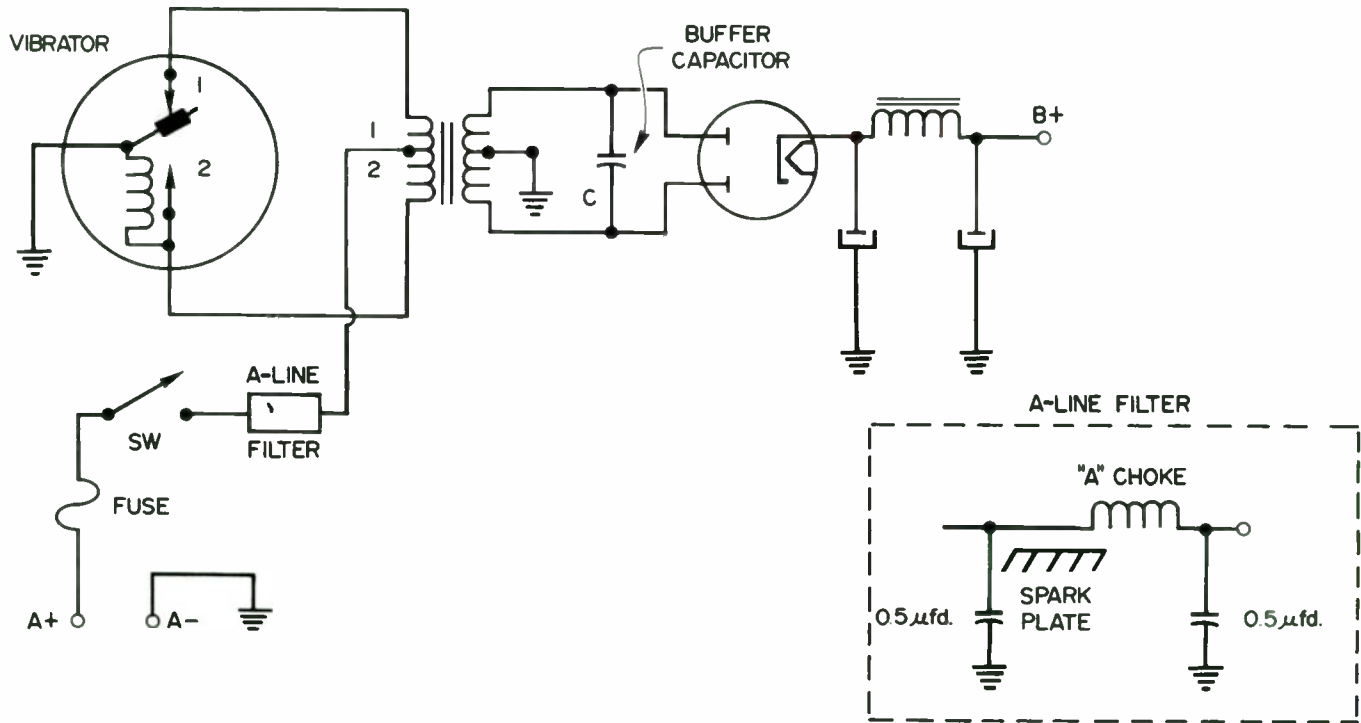

Figure 3 — Nonsynchronous vibrator supply.
The schematic in Figure 3 shows a typical nonsynchronous vibrator supply. It is powered from the automobile battery through terminals marked A+ and A-. Notice that the vibrator has two contacts; this is typical of nonsync vibrators. The transformer used has center tapped windings (both primary and secondary).
The current through section 1 is in an opposite direction to current through section 2 and they will induce opposite polarity voltage in the secondary. Thus, the rectifier's plates will be subjected to alternate positive voltage peaks and each plate will conduct during its associated positive alternation. In this illustration (Fig. 3), an LC pi-section network is used for filter-
An A-line filter consists of a series choke and bypass capacitors arranged as shown in the insert in Figure 3. In addition to these components another component called a "spark plate" is used for added suppression. It consists of two square metal plates separated by a sheet of mica, thus forming a capacitor. They are installed with one plate mounted flush to a flat surface on the radio's case. Since the radio is mounted to the body of the car, the spark plate will effectively bypass interference to the car's body.
Returning to Figure 3 for a moment, you will notice that a capacitor (C) is connected across the secondary of the transformer. This is a high voltage unit with a rating of 1000 VDC or greater. Its purpose is to remove the hash or noise that is generated as the vibrator contacts open and close.